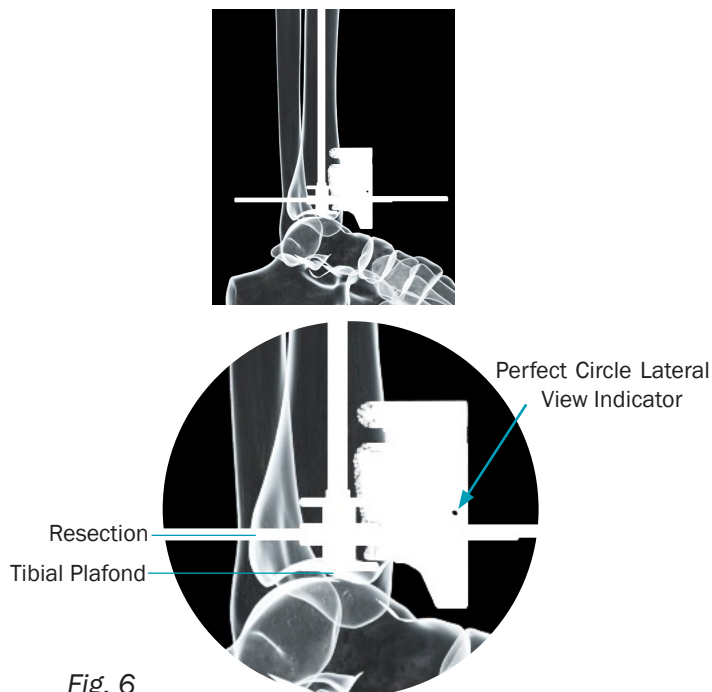

Fig. 6
1.6 Use a lateral radiograph to confirm cut height and slope angle positioning of the tibia PSR. (Fig. 6)